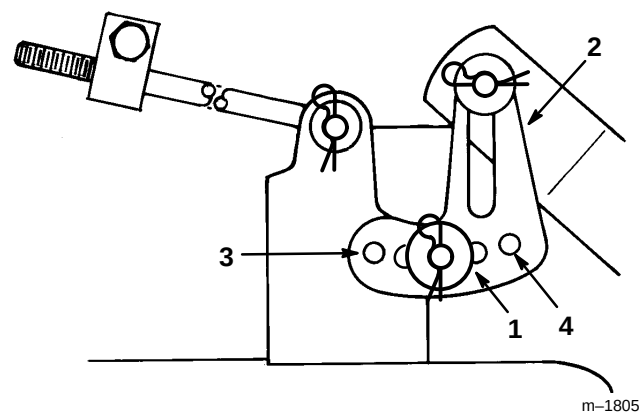

Figure 47
(Fig. 47). A front hole lowers the blade height and a rear hole raises its height. Repeat this procedure on the opposite side.
5. Remove the hair pin cotter and washer from the leveling bracket (Fig. 47). To level the blade(s), reposition the leveling bracket in a different hole and install the washer and hair pin cotter.